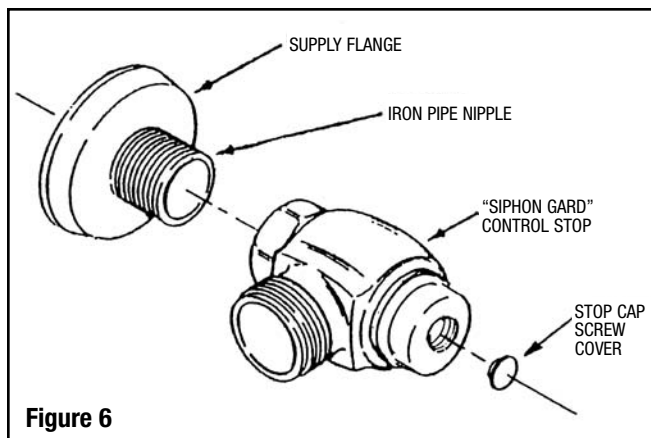

Figure 6
STEP 3 – Control Stop Installation (Figure 6)
STEP 11 – Adjust Control Stop (Figures 6 and 12)